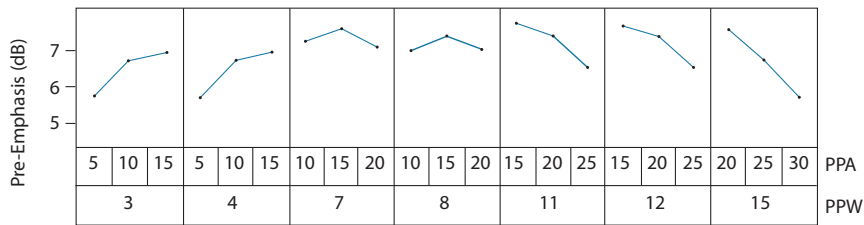
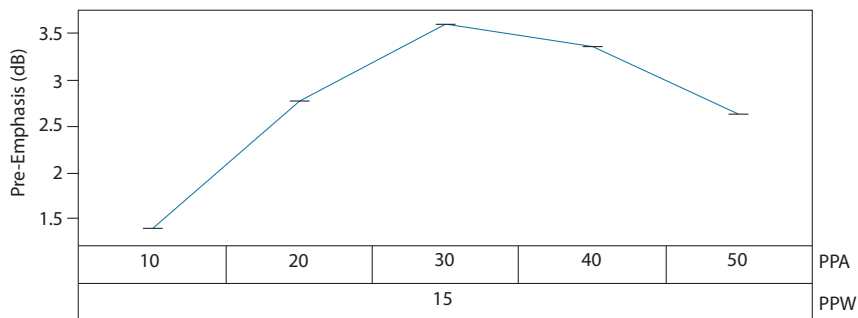

Figure 4-12: Pre-emphasis Settings for VCCO_1 = 1.2V and DS = 7 (swing = 200mV_{pp})
Figure 4-19: Pre-emphasis Settings for VCCO_1 = 2.5V and DS = 35 (swing = 800mV_{pp})
The only requirement of the Trace Driver pre-emphasis settings is to minimize ISI introduced by a lossy link and maximize the eye opening at the receiver. The pre-emphasis compensation of the GS12090 output channel is a two-step process. The first step is to use the settings from Figure 4-12 to Figure 4-19 that best match the insertion loss of the link in the application, while the second step is a fine optimization procedure.
1. Pre-emphasis Amplitude (PPA) Optimization: Set the PPA and PPW to the values obtained from the graph selected out of Figure 4-12 to Figure 4-19, and then measure the downstream jitter. While keeping PPW constant, increment the PPA by 'a'. If the jitter is lower after the first increment, continue to increment by 'a' until the jitter begins increasing or a setting of 50 is reached. If there was a setting which resulted in a lower jitter measurement than the initial setting, that is the Optimized Pre-emphasis Amplitude setting: $PPA_{Optimal}$, and the PPA optimization procedure is complete.
If incrementing the PPA or decrementing the PPA did not result in a setting with lower jitter, then the initial setting obtained from the graph selected out of Figure 4-12 to Figure 4-19 is the PPA optimized Pre-emphasis Amplitude setting: $PPA_{Optimal}$.
2. The second step is to set the PPA to the optimized setting $PPA_{Optimal}$ determined in step 1 and PPW to the values obtained from the graph selected out of Figure 4-12 to Figure 4-19, then measure the downstream jitter. While keeping PPA constant, increment the PPW by 'w'. If the jitter is lower after the first increment, continue to increment by 'w' until the jitter begins increasing or a setting of 15 is reached. If there was a setting which resulted in a lower jitter measurement than the initial setting, that is the Optimized Pre-emphasis Width setting: $PPW_{Optimal}$, and the optimization procedure is complete.
If incrementing the PPW or decrementing the PPW did not result in a setting with lower jitter, then the initial setting value obtained from the graph selected out of Figure 4-12 to Figure 4-19 is the optimized Pre-emphasis Width setting: $PPW_{Optimal}$.